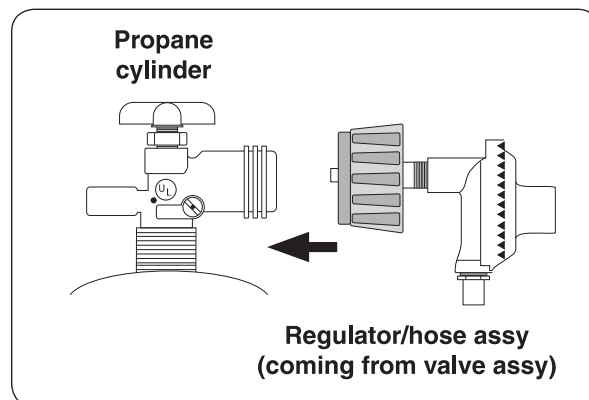

Fig. 17-2 Connecting to an L.P. cylinder
2. Route the hose assembly through the hole in the housing to the propane cylinder. Attach the regulator end of the hose assembly to a propane cylinder (not included) and tighten (see Fig 17-2 and 17-3).